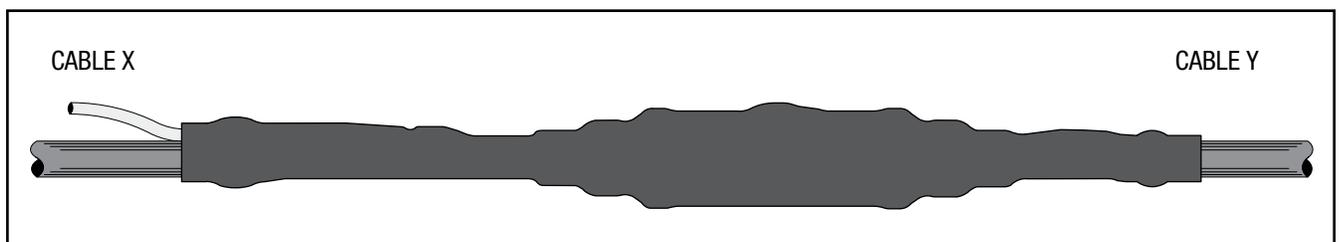

Figure 10
- 4.4 Completed Splice (Figure 10)